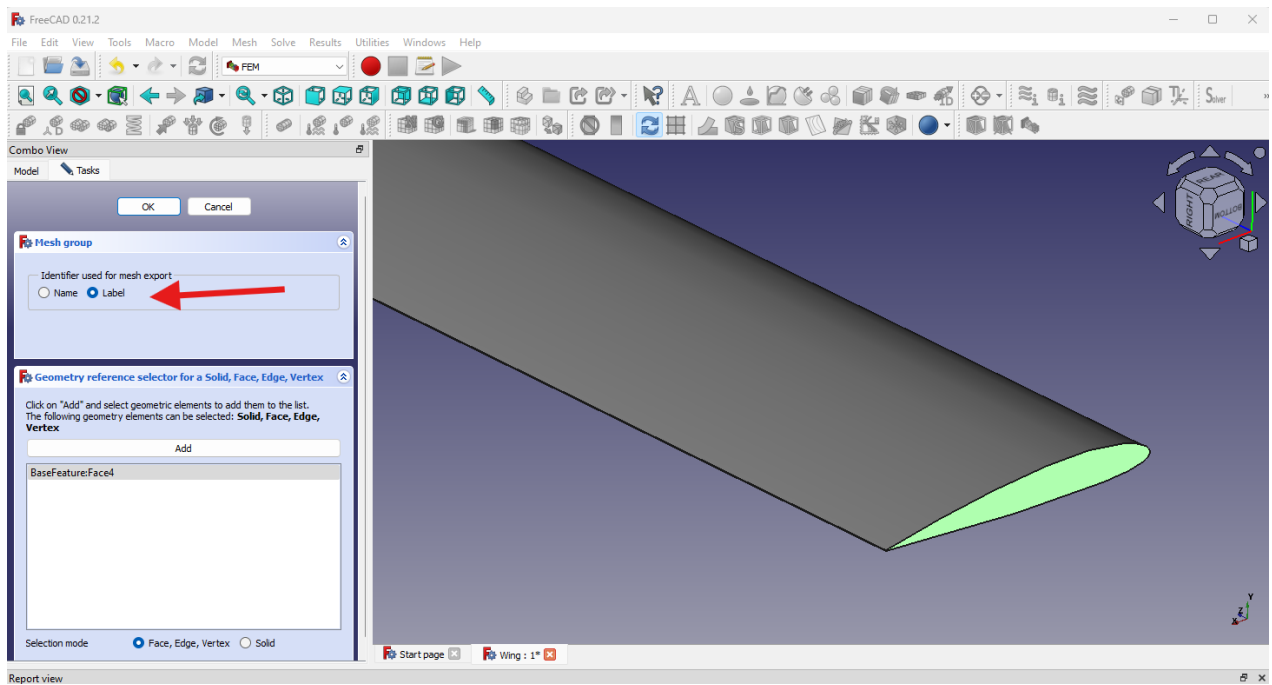

Figure 16: FreeCAD: Add surface to mesh group
- In the **Tasks** tab, select **Label** as **Identifier used for mesh export** and **Face, Edge, Vertex** as **Selection mode** (Figure 16).